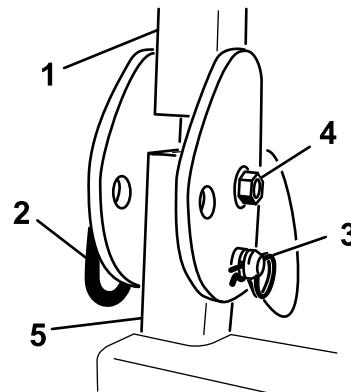

Figure 58
1. Remove the bolt, nut, hair pin cotter and pin securing each ROPS assembly to the ROPS posts (Figure 58). Remove the ROPS assembly.